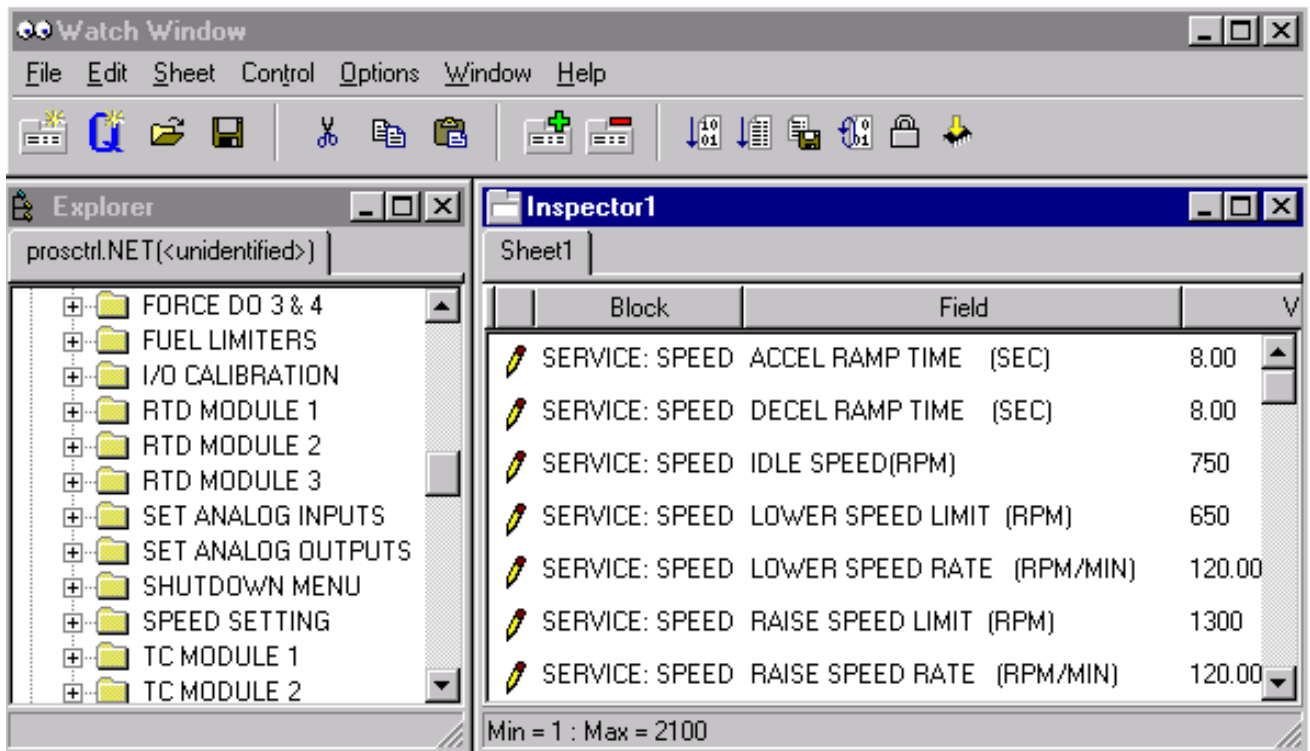
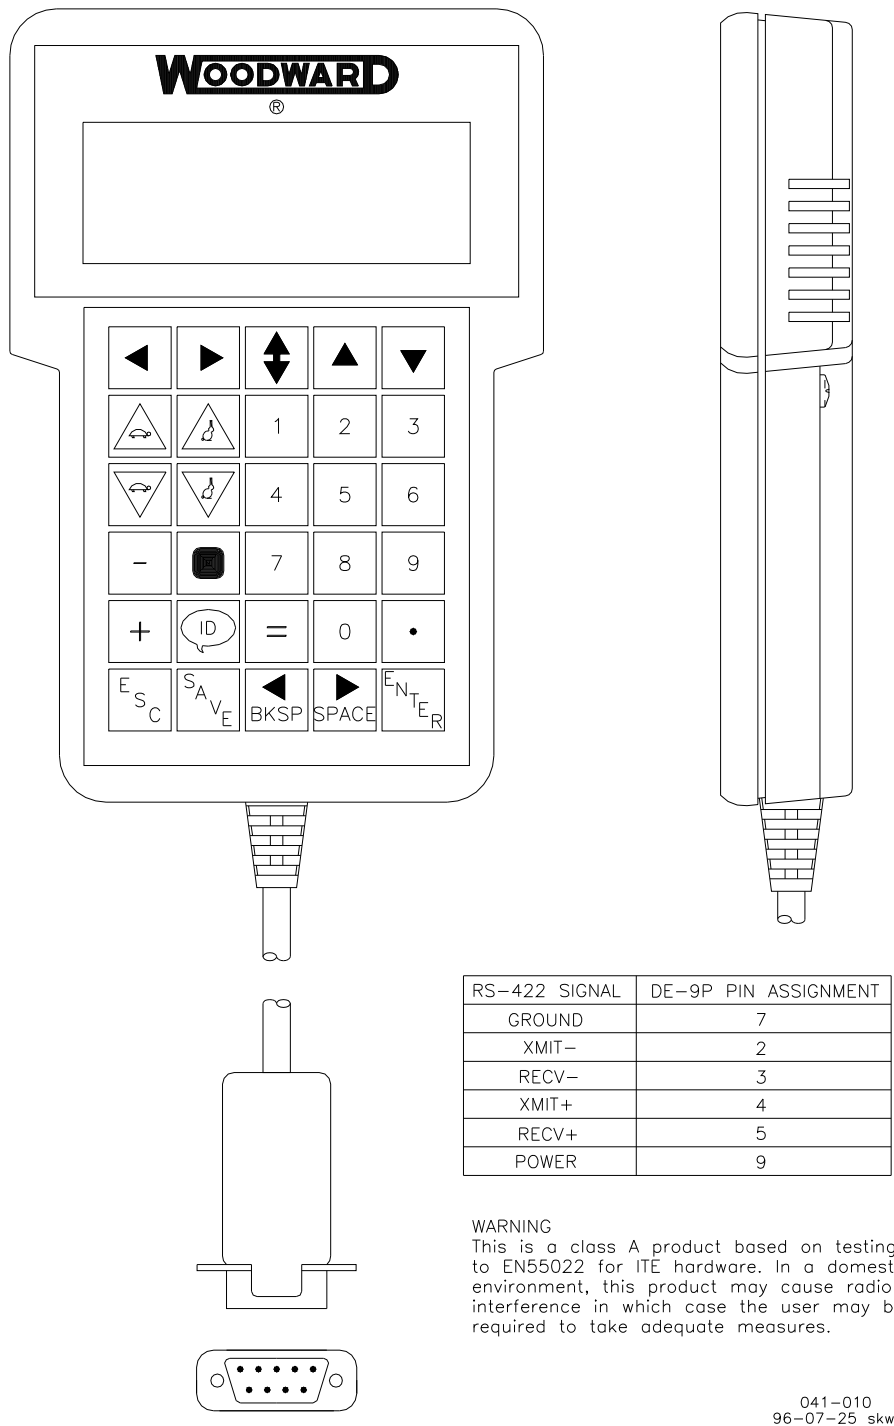

Figure 1-2. Watch Window Display
Figure 1-3. Hand Held Programmer
- Servlink Watch Window (Figure 1-2) or an optional hand held terminal (Figure 1-3) for adjusting control parameters
PC based Watch Window software (part number 8923-932) and a Hand Held Programmer (part number 9907-205) are used for adjusting software parameters of the 723PLUS control, including the software options. The PC cable or Hand Held Programmer plug into communication port J1 of the control (see manual 26007 *Getting Started* for using the Watch Window software). [Hand Held Programmer part number 9905-292 can also be used.] See Figures 1-2 and 1-3.